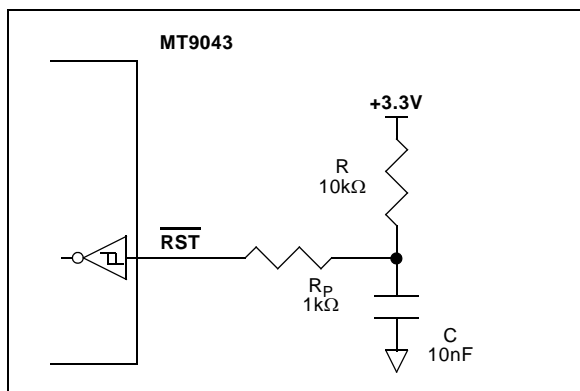

Figure 10 - Power-Up Reset Circuit
A simple power up reset circuit with about a 50us reset low time is shown in Figure 10. Resistor R_P is for protection only and limits current into the \overline{RST} pin during power down conditions. The reset low time is not critical but should be greater than 300ns.
* See Figure 10.